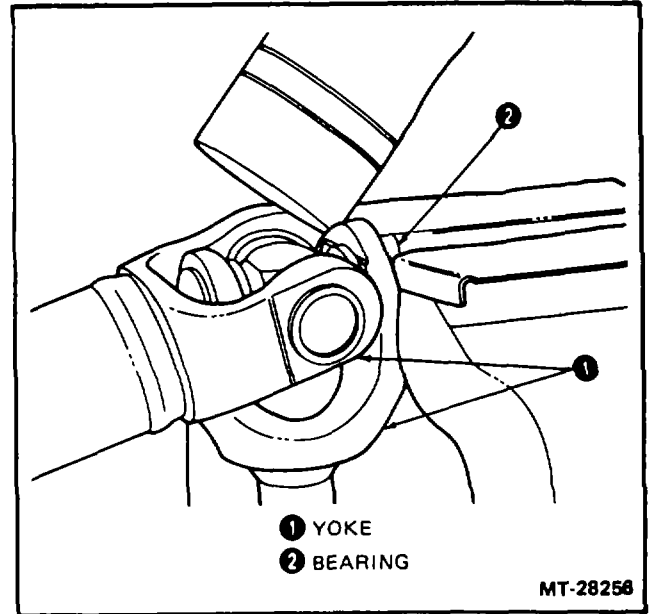
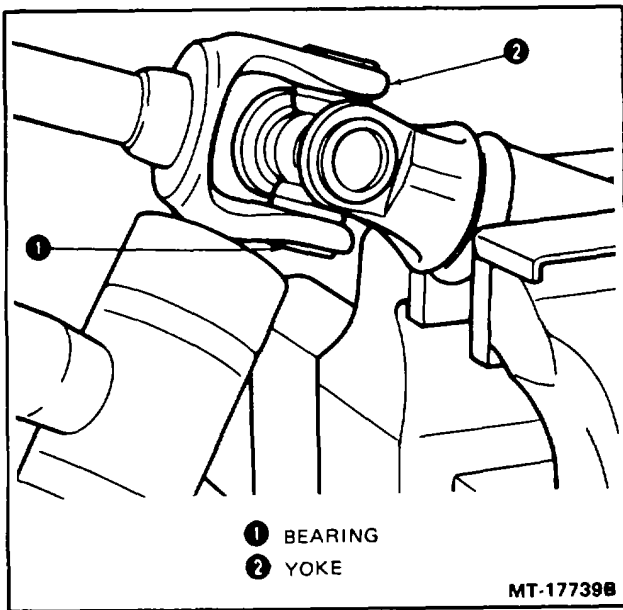

Figure 12 - Bearing Removal
Figure 11 - Bearing Removal
- Place the shaft assembly in a vise as shown in Figure 11. Tap the yoke with a soft hammer beside the bearing that is being removed. The bearing should come out. If the bearing does not come out, place the bearing in a vise. Use copper Jaw covers on vise. Tap the yoke away from the bearing as shown in Figure 12.